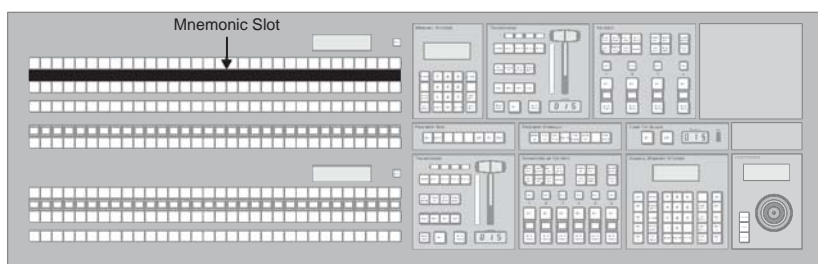

Figure 10 *Mnemonic Slot — Vision 2X*
1. Slide the **Mnemonic Blank Plate** into the **Mnemonic Slot** in the top of the control panel (**Figure 10**).